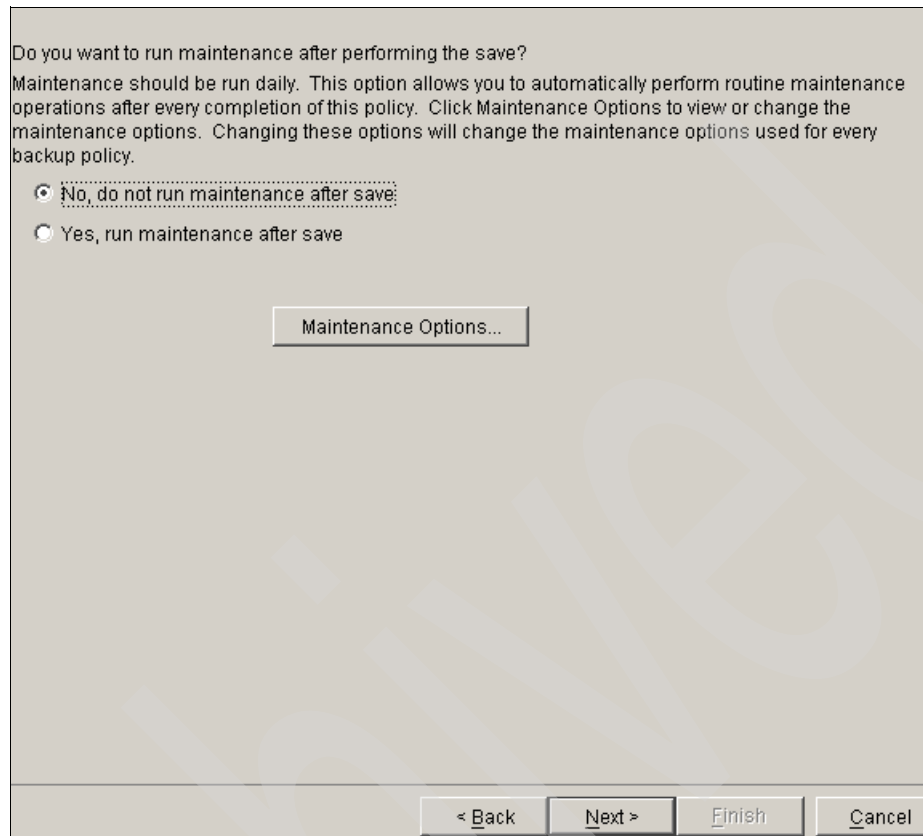

Figure 6-27 New Backup policy wizard - run maintenance
17. Next, specify if you want to run BRMS maintenance after save; in our example we do not run it, as can be seen in Figure 6-27. After selecting, click **Next**.